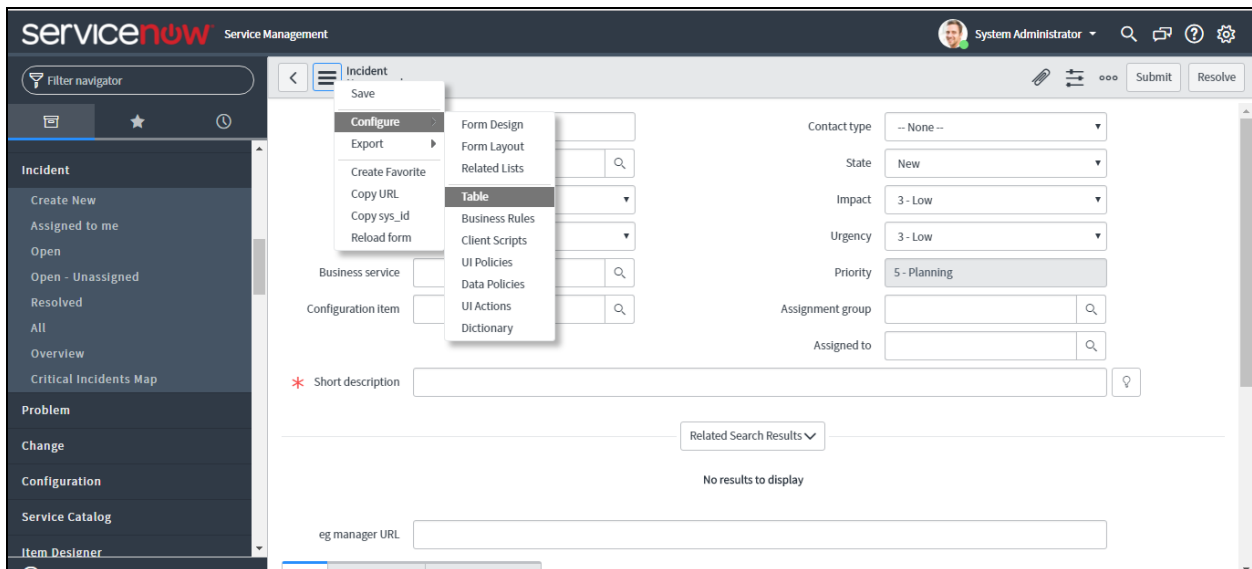

Figure 5.41: Selecting the Configure -> Table menu option
- Clicking on the button at the top of the right panel in Figure 5.40 will bring up a shortcut menu as shown by Figure 5.41. From this menu, select the Configure -> Table option.